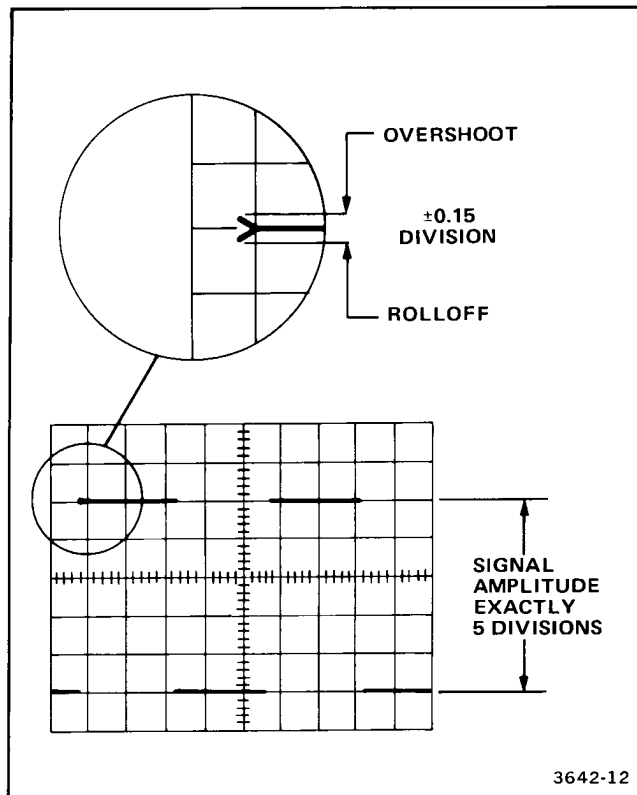

Figure 4-1. High frequency gain limits.
j. CHECK—Front corner rolloff or overshoot of the displayed signal is 0.15 division or less (see Figure 4-1). If it is not, refer to the "High Frequency Gain" Adjustment Procedure.